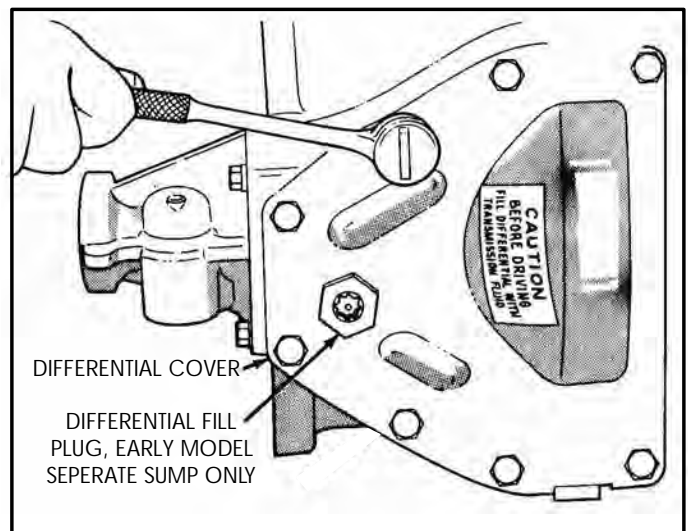

Figure 184
16. Install the differential cover onto transaxle case and torque the ten bolts to 19 N·m (14 ft.lbs.), as shown in Figure 184.